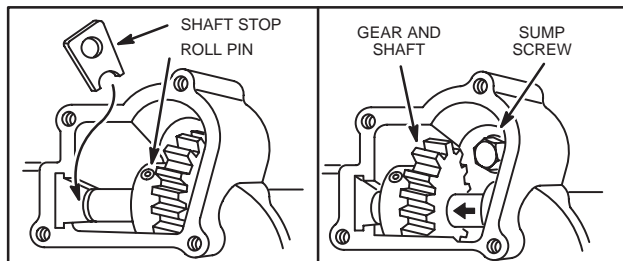

Fig. 154 – REMOVE AND INSTALL SUMP SCREW
**NOTE:** One of the six (6) sump mounting screws is located under the auxiliary drive cover.
3. Lift out shaft stop, Fig. 154.
**NOTE:** Sump is held on by six screws. Five screws are exposed. The sixth screw is under the auxiliary drive cover, Fig. 154.
2. Remove cover and lift out shaft stop, Fig. 154.